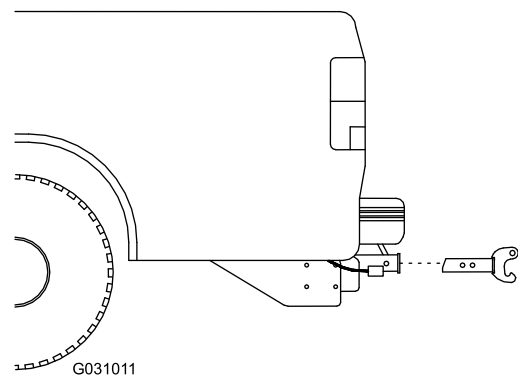

Figure 11
- Slide the RT3 hitch into the receiver hitch of your vehicle and line up the second hole on the spreader hitch with the hole in the hitch of your vehicle (Figure 11).